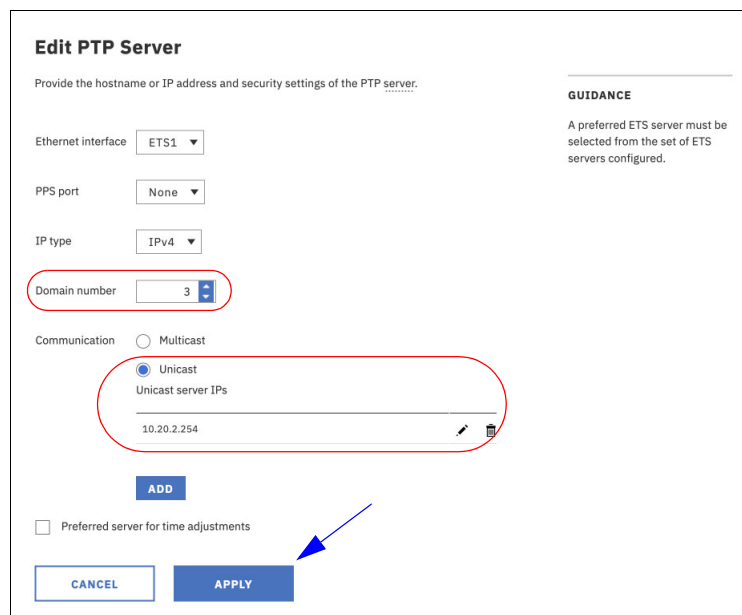

Figure 4-25 Second PTP source
14. Select a different PTP Grandmaster as shown in Figure 4-25.